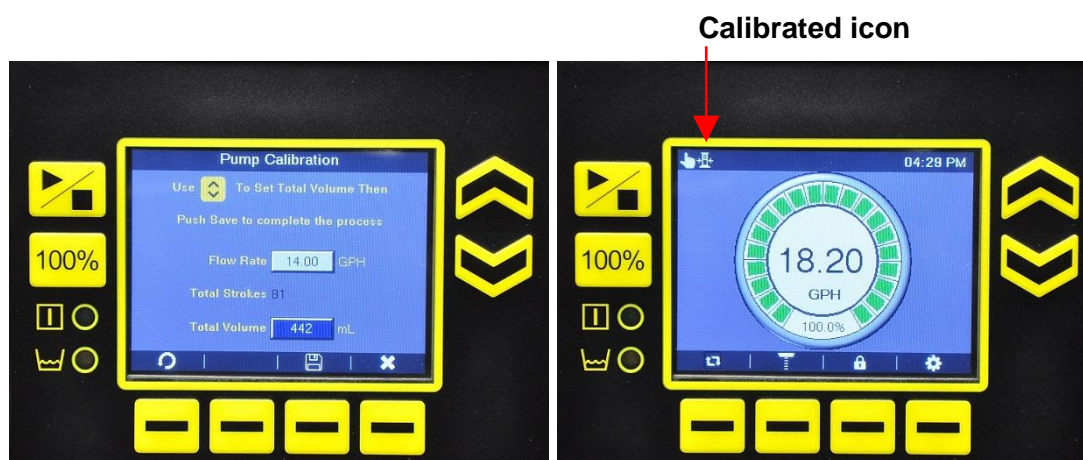

Figure 28: Pump Calibration
9. The total volume box will be highlighted (Figure 28). Using the **Up** or **Down** buttons, enter the actual volume measured during the calibration.